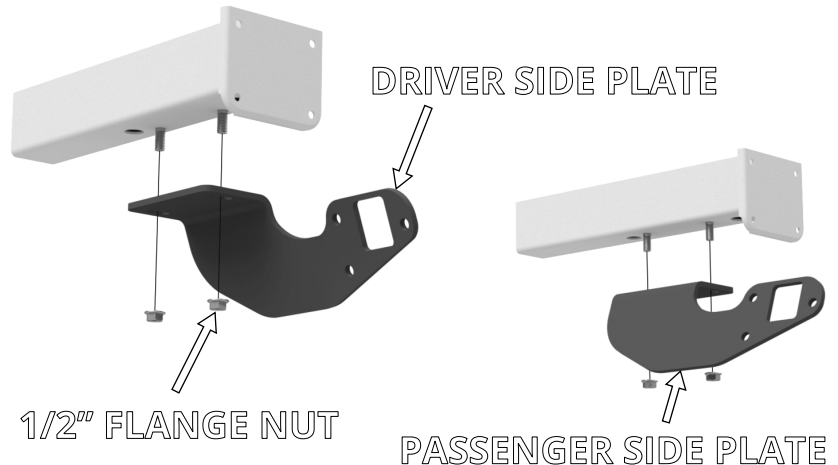

FIGURE B1: VIEW UNDER THE REAR OF THE VEHICLE
7. Attach each side plate to the vehicle using the two 1/2 x 1-1/4" carriage bolts that are positioned inside the chassis channels. Pass each side plate up over the bolts and secure them with two 1/2" flange nuts, as shown in Figure B1. Loosely attach bolts at this time.